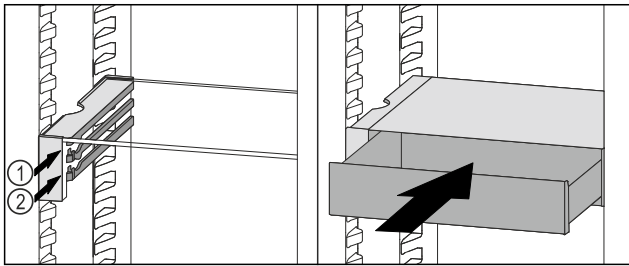

Fig. 109
- ▶ Place the VarioSafe drawer behind the stoppers on desired rib Fig. 109 (1) or Fig. 109 (2).